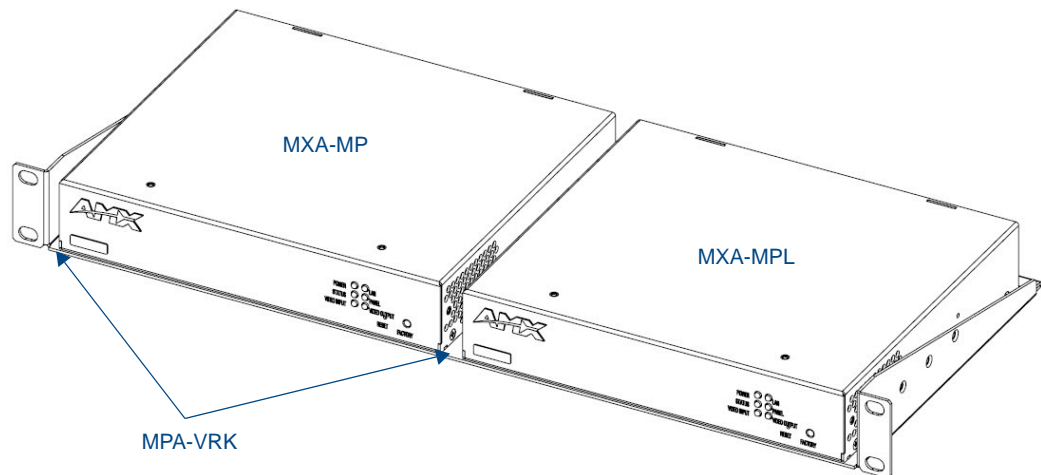

FIG. 7 MPA-VRK Rack Mounting Tray
The MXA-MP or MXA-MPL may be put in a freestanding location on a desktop or table, but the device may also be installed in a standard AV rack. Installation in a rack requires the use of an MPA-VRK Rack Mounting Tray (FG5968-30) (FIG. 7), available from www.amx.com.
1. Select a position on the Rack Mounting Tray for the installation. The Rack Mounting Tray contains screw holes to allow single or double device installations (FIG. 7).